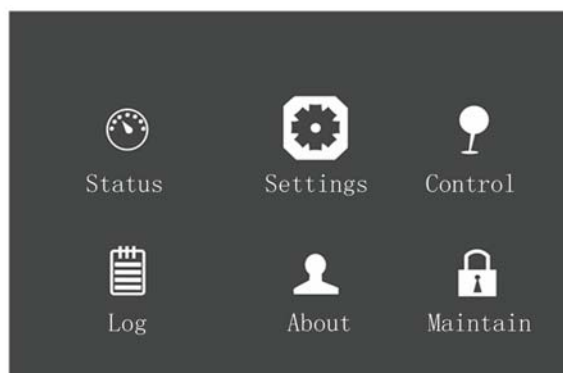

Figure 5-18 Main menu screen
1. Access the main menu screen and press the  or  key to switch the cursor to select 'Settings', then press the  key to confirm. See Figure 5-18.